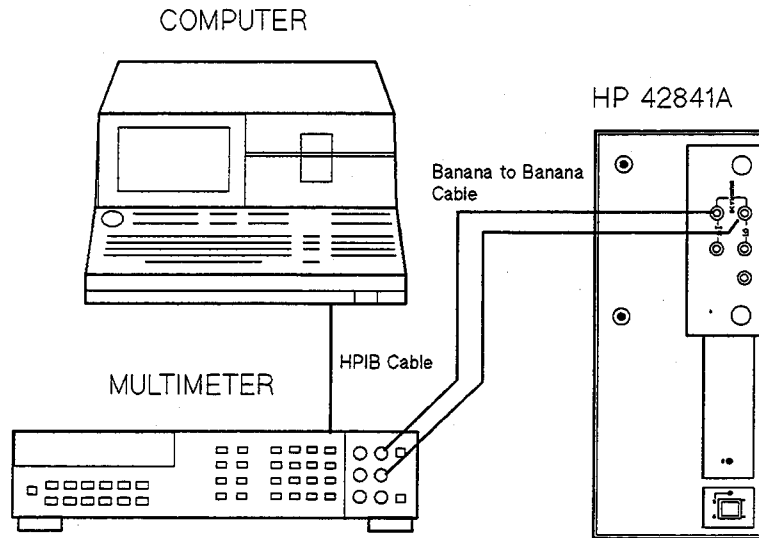
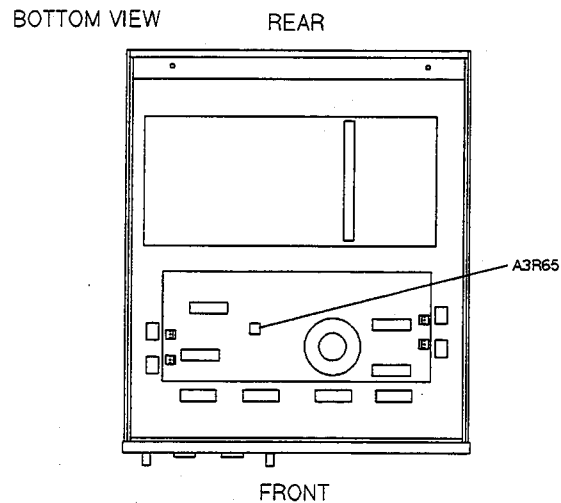

Figure 3-4. Bias Current Source Adjustment Setup
Figure 3-5. Bias Current Source Adjustment Location
6. Perform the Bias Current Source Adjustment according to the program's instructions. Figure 3-4 shows the adjustment setup. Figure 3-5 shows A3R65's (SOURCE ADJ) location.